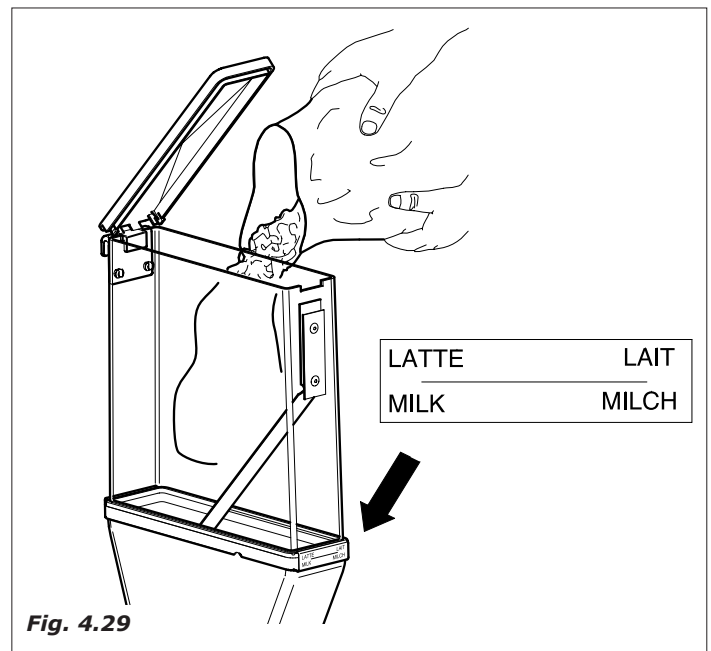

Fig. 4.29
- remove the covers of each container and load the product according to the product indicated on the label (Fig.4.29)